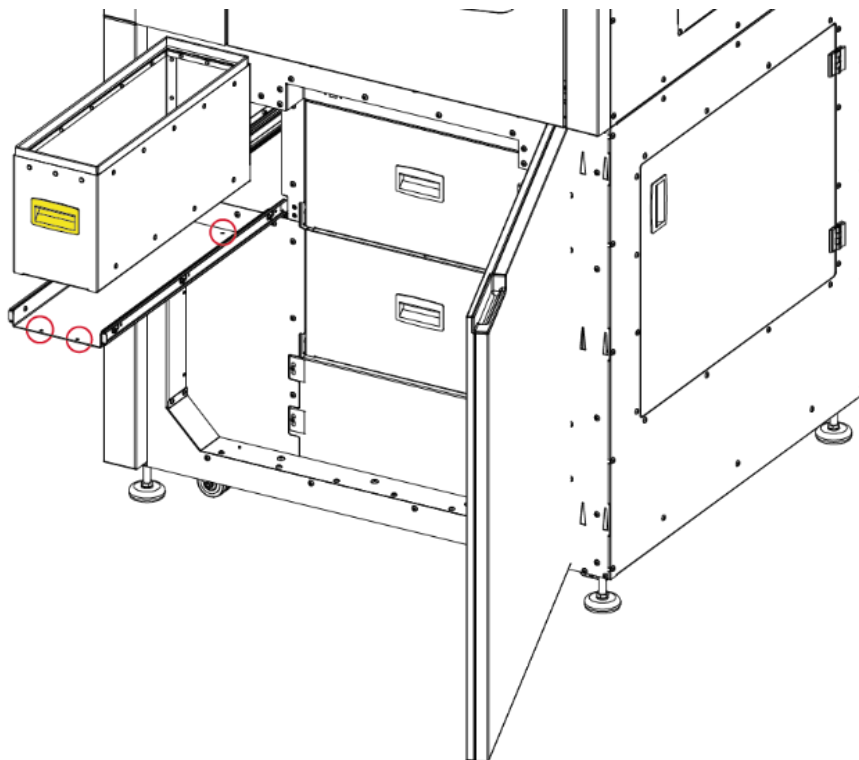

Fig. 77 Installing the cleaning station waste container – step 2
7. Mount the waste container in the device so that the holes in the waste container are placed in the pins (Fig. 77, red).